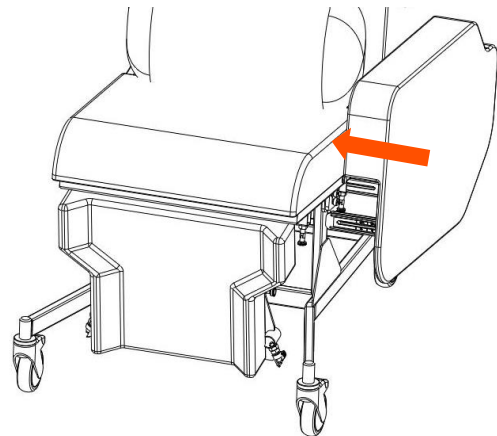
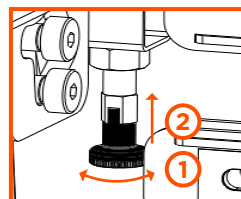

FIGURE 18
FIGURE 19
17. Locate the two sidepiece fixing bars into the chair frame. Push the sidepiece all the way in (Fig 18) and release the plunger by rotating it until the cap engages with the base (Figure 19).